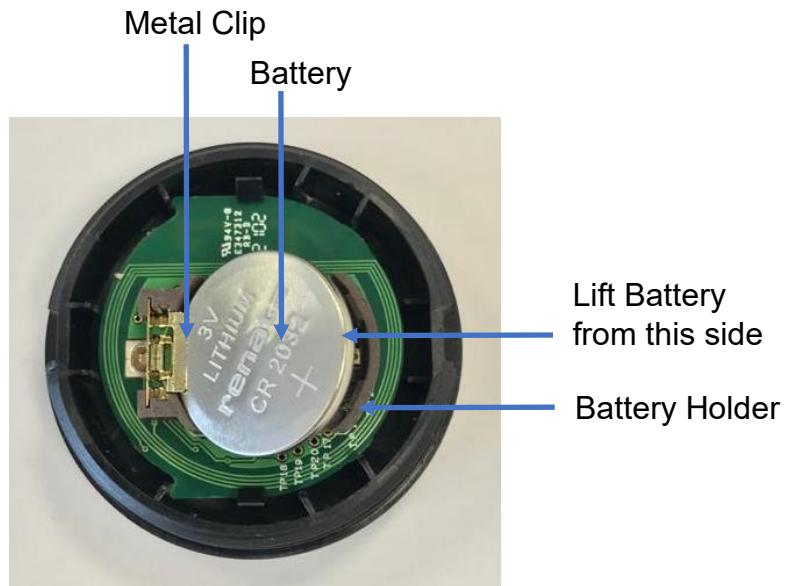

Fig 2
2. Carefully lift the battery from opposite side to the metal clip and slide battery out from battery holder (Fig 2), take note of the correct battery polarity.